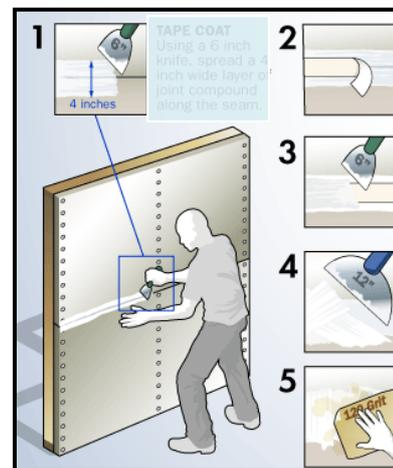

FIGURE 2.6
2.6 The steps for concealing the joints of dry wall construction is shown in FIGURE 2.6 and also listed in the table below. The steps are NOT listed in the correct order.